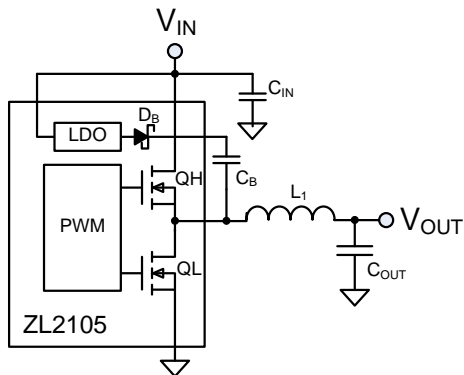

Figure 6. Synchronous Buck Converter
Figure 6 illustrates the basic synchronous buck converter topology showing the primary power train components. This converter is also called a step-down converter, as the output voltage must always be lower than the input voltage. The ZL2105 integrates two MOSFETs; QH is the top control MOSFET and QL is the bottom synchronous MOSFET. The amount of time that QH is on as a fraction of the total switching period
The gate drive voltage for the high-side MOSFET driver is generated by a floating bootstrap capacitor, C_B (see Figure 6). When the lower MOSFET (QL) is turned on, the SW node is pulled to ground and the capacitor is charged from the internal VR bias regulator through diode D_B . When QL turns off and the upper MOSFET (QH) turns on, the SW node is pulled up to V_{DDP} and the voltage on the bootstrap capacitor is boosted approximately 5V above V_{DDP} to provide the necessary voltage to power the high-side driver. An internal Schottky diode is used with C_B to help maximize the high-side drive supply voltage.